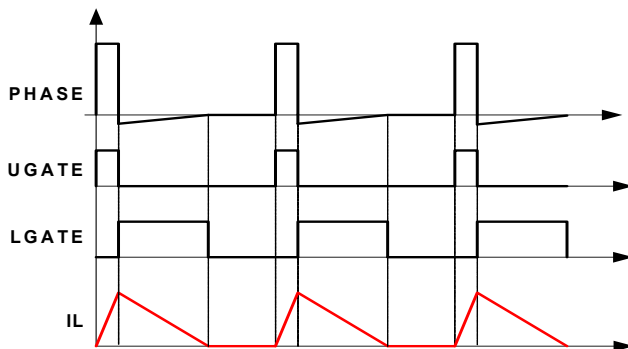

FIGURE 12. DIODE EMULATION
The ISL62773 can operate in diode emulation (DE) mode to improve light-load efficiency. In DE mode, the low-side MOSFET conducts when the current is flowing from source to drain and does not allow reverse current, thus emulating a diode. Figure 12 shows that when LGATE is on, the low-side MOSFET carries current, creating negative voltage on the phase node due to the voltage drop across the ON-resistance. The ISL62773 monitors the current by monitoring the phase node voltage. It turns off LGATE when the phase node voltage reaches zero to prevent the inductor current from reversing the direction and creating unnecessary power loss.
If the load current is light enough, as Figure 12 shows, the inductor current reaches and stays at zero before the next phase node pulse and the regulator is in Discontinuous Conduction Mode (DCM). If the load current is heavy enough, the inductor current will never reach 0A and the regulator is in CCM, although the controller is in DE mode.